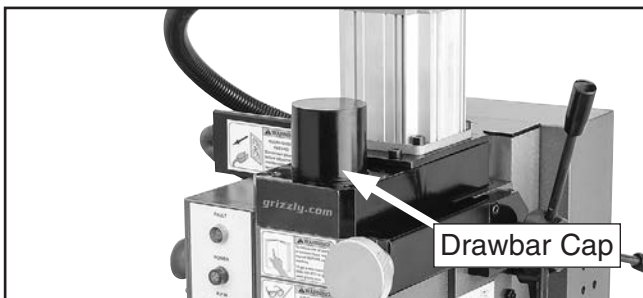

Figure 89. Location of drawbar cap.
2. Remove drawbar cap (see **Figure 89**).